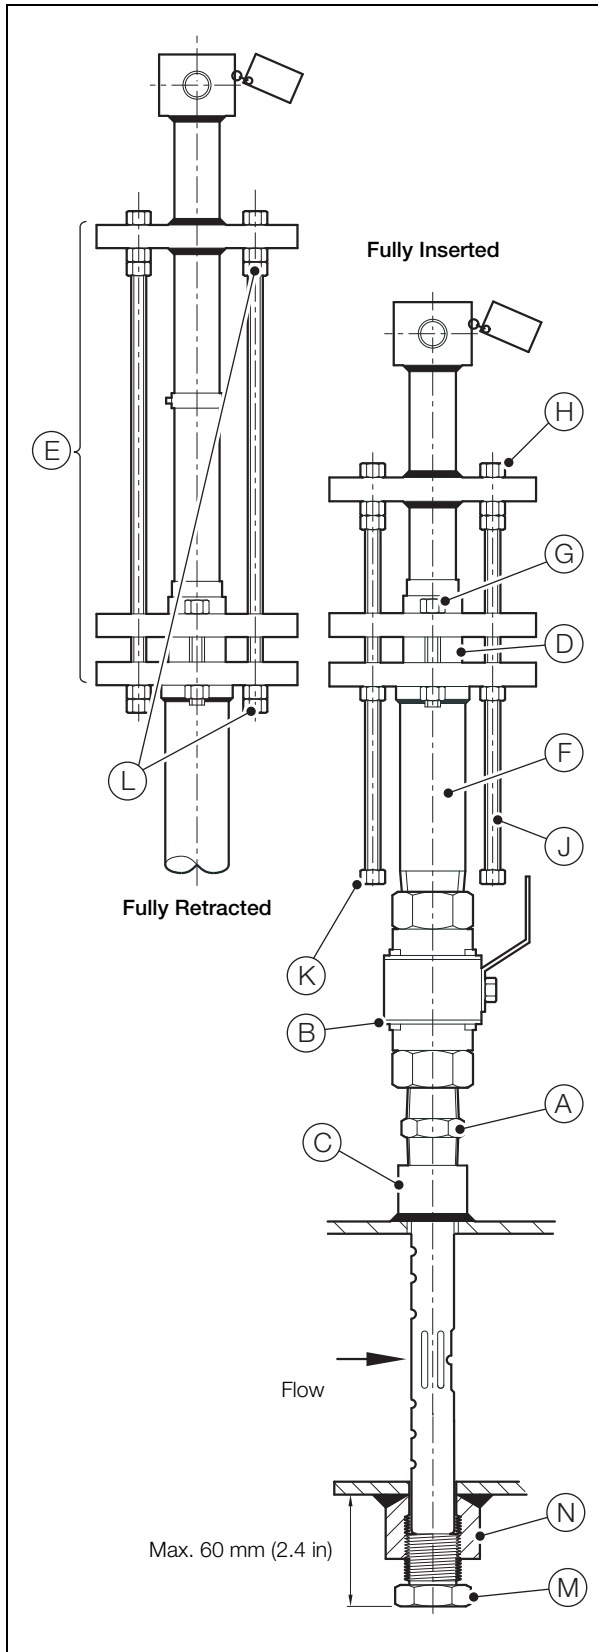

Fig. 2.13 Model H702 Installation
8. Referring to Fig. 2.13:
- a. Apply suitable sealant to the close nipple (A) and isolation valve (B) and fit them to the threaded fitting (C). Tighten securely.
- b. Ensure 6 packing rings are located correctly inside packing gland (D).
- c. Ensure the drawbolt (or optional geared) retraction assembly (E) is in the fully retracted position.
- d. Fit pressure chamber (F), complete with packing gland (D) and retraction assembly (E), to isolation valve (B), using appropriate sealants where necessary.
- e. Insert the Torbar into packing gland (D).